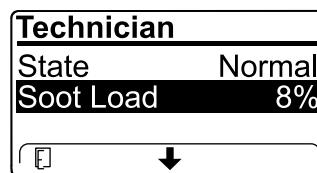

Figure 45
- View the soot load which is measured as the percentage of soot in the DPF (Figure 45); refer to the soot-load table.